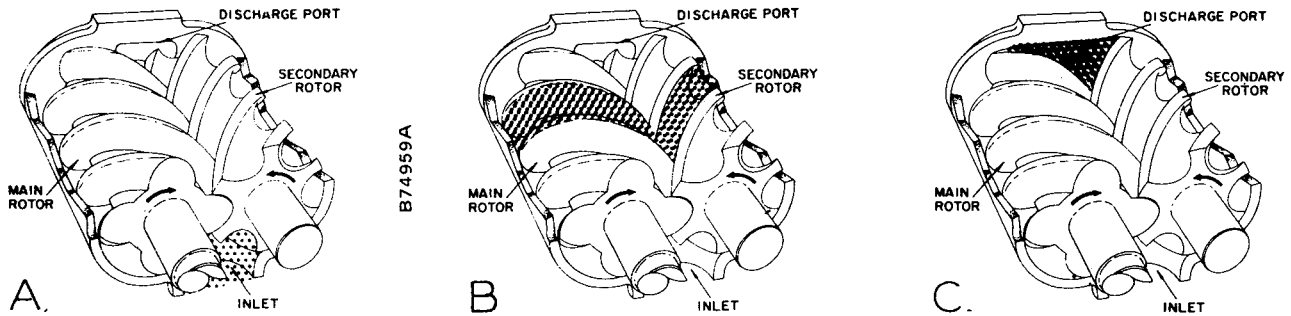

FIGURE 1-1. — COMPRESSION CYCLE
COMPRESSION PRINCIPLE (Figure 1-1) — Compression is accomplished by the main and secondary rotors synchronously meshing in a one-piece cylinder. The main rotor has four (4) helical lobes 90° apart. The secondary rotor has six (6) matching helical grooves 60° apart to allow meshing with main rotor lobes.
The air inlet port is located on top of the compressor cylinder near the drive shaft end. The discharge port is near the bottom at the opposite end of the compressor cylinder. *Figure 1-1 is an inverted view to show inlet and discharge ports. The compression cycle begins as rotors unmesh at the inlet port, and air is drawn into the cavity between the main rotor lobes and secondary rotor grooves (A). When the rotors pass the inlet port cutoff, air is trapped in the interlobe cavity and flows axially with the meshing rotors (B). As meshing continues, more of the main rotor lobe enters the secondary rotor groove, normal volume is reduced and pressure increases. Oil is injected into the cylinder by proprietary means to remove the heat of compression and seal internal clearances. The *Electra-Saver II* utilizes *Gardner-Denver's* exclusive Intensive Injection System to feed coolant into the*